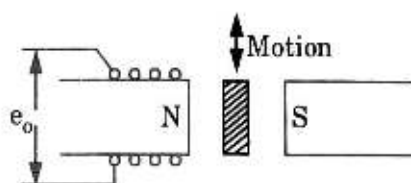

Fig. 5.11.3. Eddy current transducer.
- Fig. 5.11.3 shows an eddy-current-type transducer. A non-ferrous plate moves in a direction perpendicular to the lines of flux of a magnet. Eddy currents are generated in the plate. These are proportional to the velocity of the plate. Since the gap remains constant, the transducer has linear characteristics.